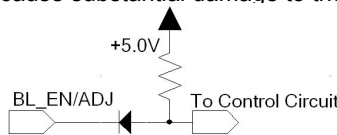

Fig.1 Terminal circuit
- *3: Terminal circuit (Fig.1) :